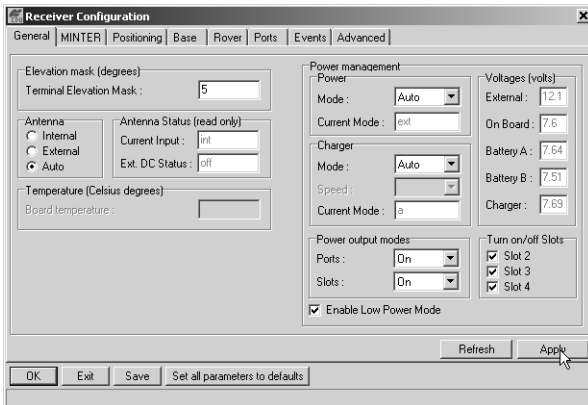

Figure 2-19. Enable and Apply Power Settings
8. Select and check each of the Turn on/off Slots check boxes to enable the corresponding internal slots (Figure 2-19).
9. Select and check the Enable Low Power Mode check box to put the receiver’s processor into low power consumption mode (Figure 2-19).